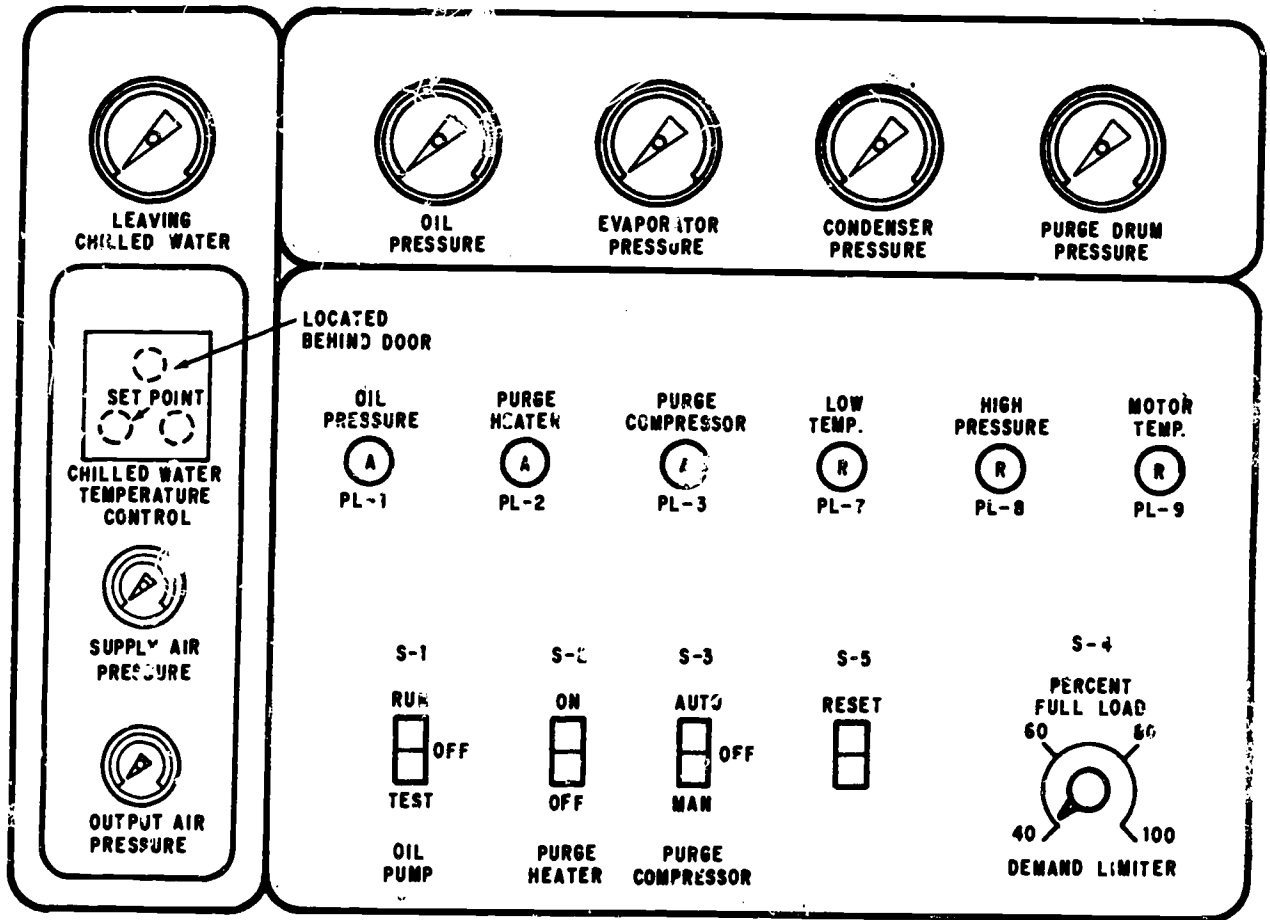

Figure 3. Control Panel
- a. Unit Control Panel (see figure 3)
- (1) S-1 Compressor oil pump - AUTO
- (2) S-2 Purge oil heater - ON
- (3) S-3 Purge compressor - AUTO
- (4) S-4 Manual demand limiter - 40 PERCENT
- (5) S-5 Reset - RESET